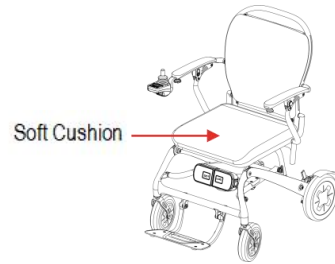

Figure 13
4.1.8 Optional Soft Cushion (See Figure 13)